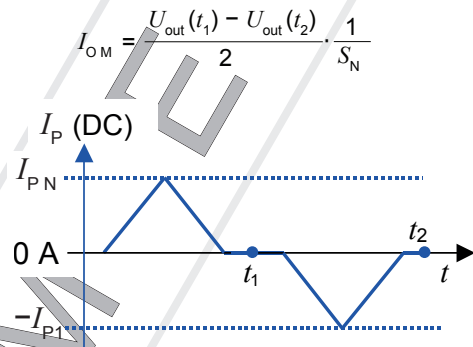

Figure 1: Current cycle used to measure magnetic and electrical offset (transducer supplied)
- or in a known magnetization state, like in the current cycle shown in figure 1.